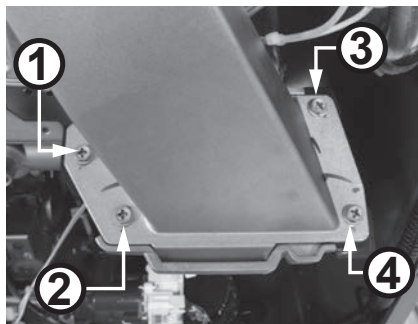

Figure 88 - Remove fan assembly screws
10 Locate the four (4) screws securing the fan assembly to the burner assembly as shown in Figure 88. Use a Phillips screwdriver to remove the screws. Place the screws aside in a safe place for reinstallation.